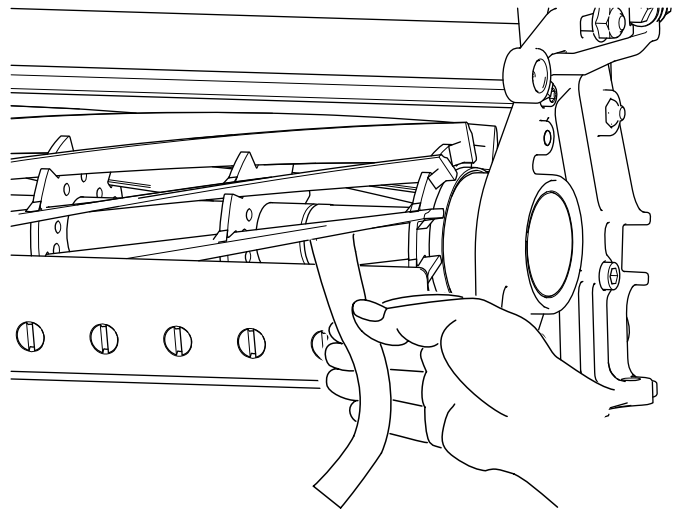

Figure 10
- B. Insert a long strip of cutting performance paper (Toro Part No. 125-5610) between the reel and bedknife, perpendicular to the bedknife (Figure 10), then **slowly** rotate the reel forward; it should cut the paper; if not, repeat steps A and B until it does.
bedknife, perpendicular to the bedknife (Figure 10), then **slowly** rotate the reel forward; it should cut the paper; if not, turn each bedbar adjusting screw clockwise 1 clicks and repeat this step until it cuts the paper.